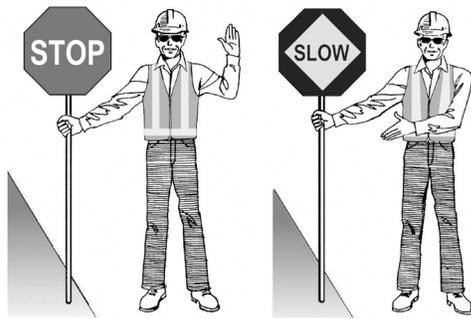

Figure 29-4: Proper Arm Placement
- Use the STOP-SLOW sign and your arms as shown in Figure 29-4. Hold your sign firmly in full view of oncoming traffic.